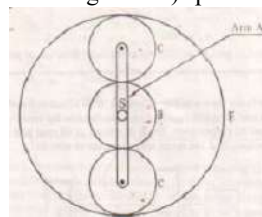

Fig. 4.2
2. In an Epicyclic gear train shown in the figure 4.2, the arm A is fixed to the shaft S the wheel B having 100 teeth rotates freely on the shaft S, wheel F 150 teeth is separately driven. If the arm A runs at 200 rpm, wheel F at 100 rpm in the same direction find a) number of teeth of gear C b) speed of the wheel B. (solve it by algebraic method)